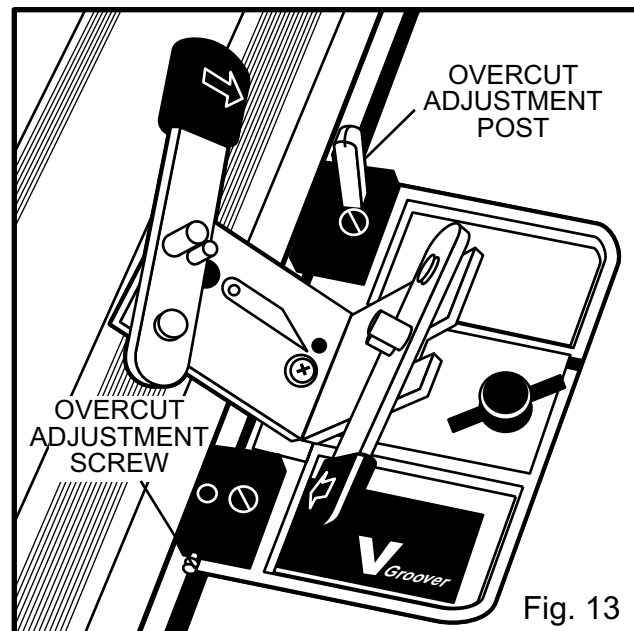

Fig. 13
- a. Turn screw clockwise to increase overcut (Fig. 13).
- b. Turn screw counterclockwise to decrease overcut (Fig. 13).